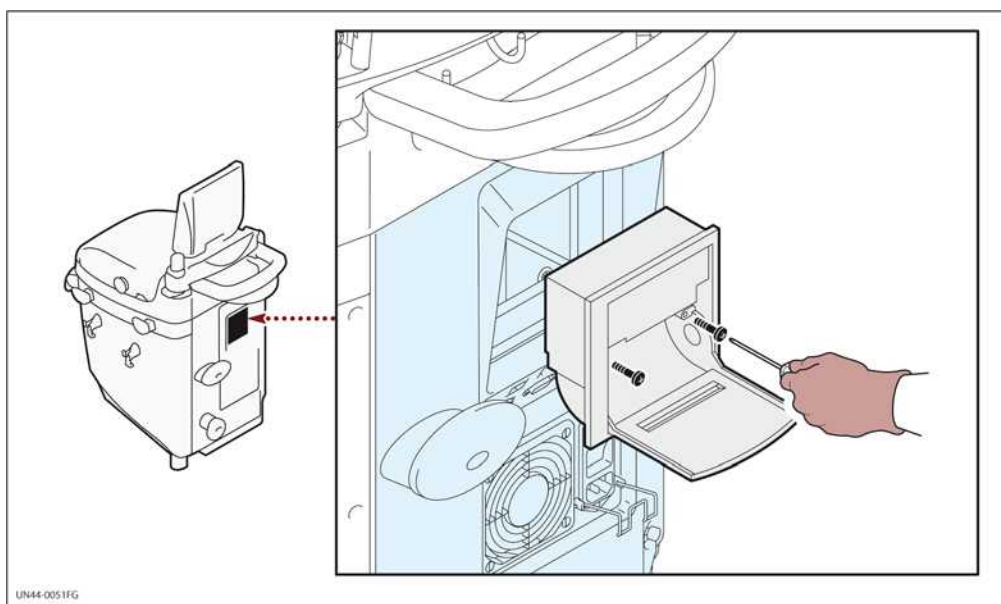

Fig. 12.44-1
- Unscrew the two cross screws located on left and right side of the paper (see fig.12.44-1);